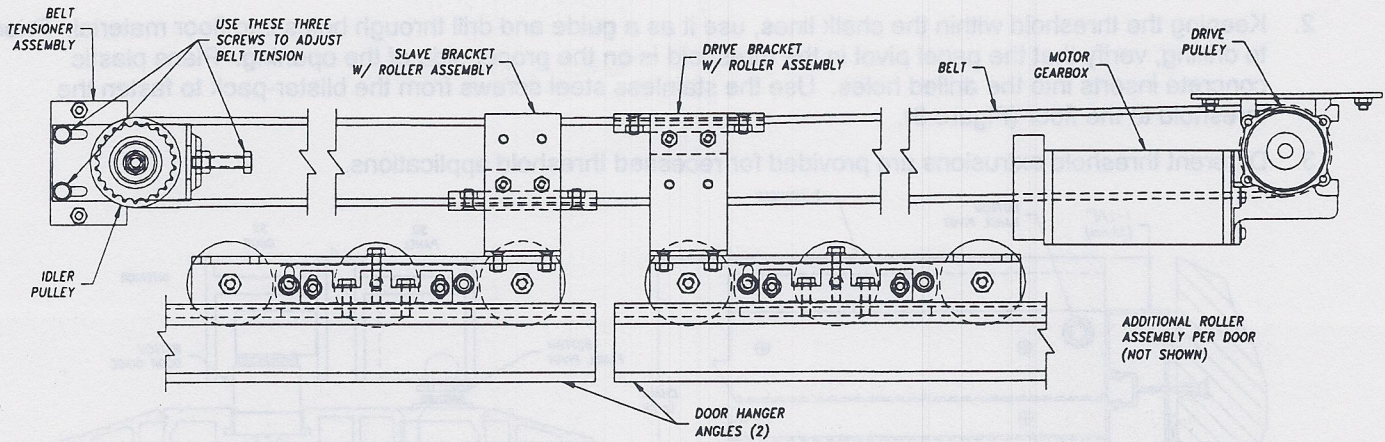

FIGURE 6: Belt Drive Assembly
1. Refer to the following illustration for a detailed breakdown of internal drive components (Figure 6).